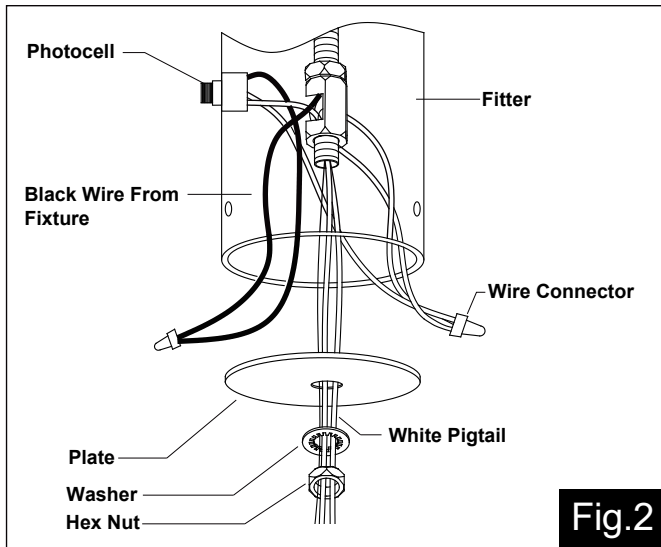

Fig.2
2. Unthread the fitter screw and plate, and then Loosen the wire connectors connected with the wires from photocell. (See Fig.2)